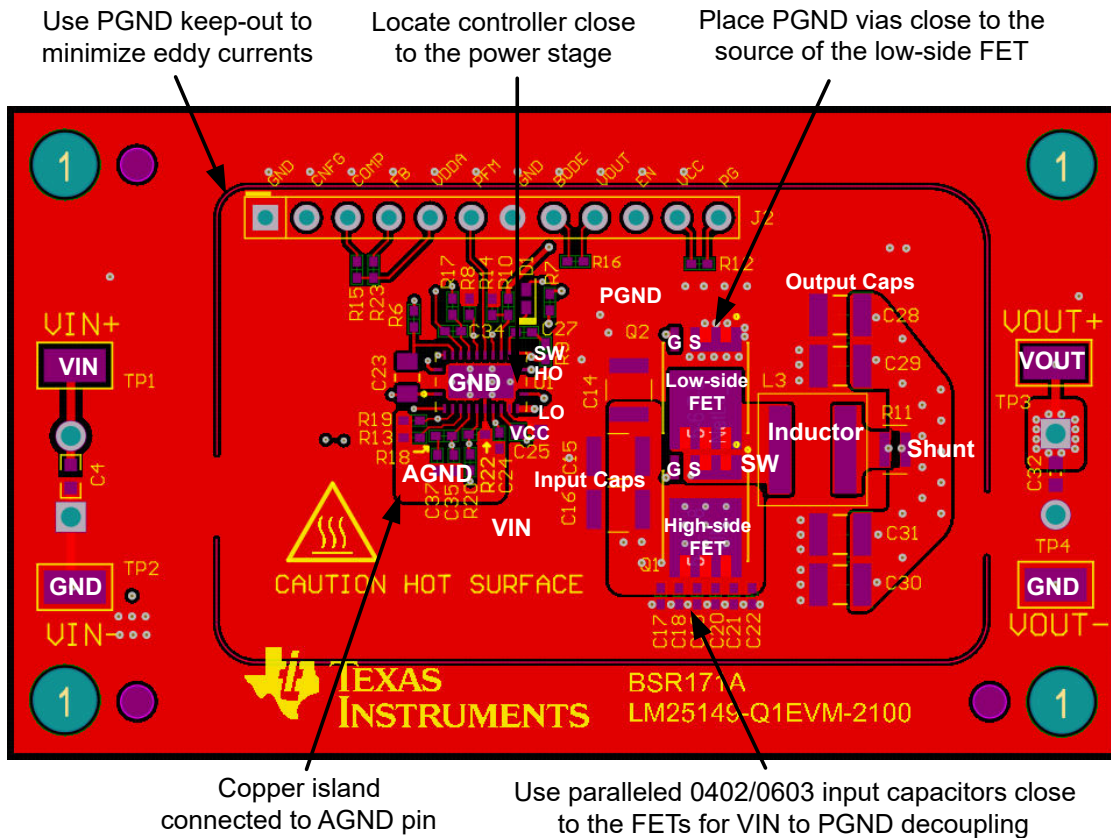

图 9-48. PCB Top Layer – High Density, Single-sided Design
- Connect AVSS to a quiet GND connection, further from IC if possible. Keep decoupling capacitor $C_{AEFVDDA}$ close to the AEFVDDA pin and AVSS GND connection. See capacitor C23 in Figure 9-48.
图 9-48 shows a single-sided layout of a synchronous buck regulator with discrete power MOSFETs, Q1 and Q2, in SON 5-mm × 6-mm case size. The power stage is surrounded by a GND pad geometry to connect an EMI shield if needed. The design uses layer 2 of the PCB as a power-loop return path directly underneath the top layer to create a low-area switching power loop of approximately 2 mm². This loop area, and hence parasitic inductance, must be as small as possible to minimize EMI as well as switch-node voltage overshoot and ringing.
- Make the ground connections to the LM5149-Q1 controller as shown in 图 9-48. Create a power ground directly connected to all high-power components and an analog ground plane for sensitive analog components. The analog ground plane for AGND and power ground plane for PGND must be connected at a single point directly under the IC – at the die attach pad (DAP).